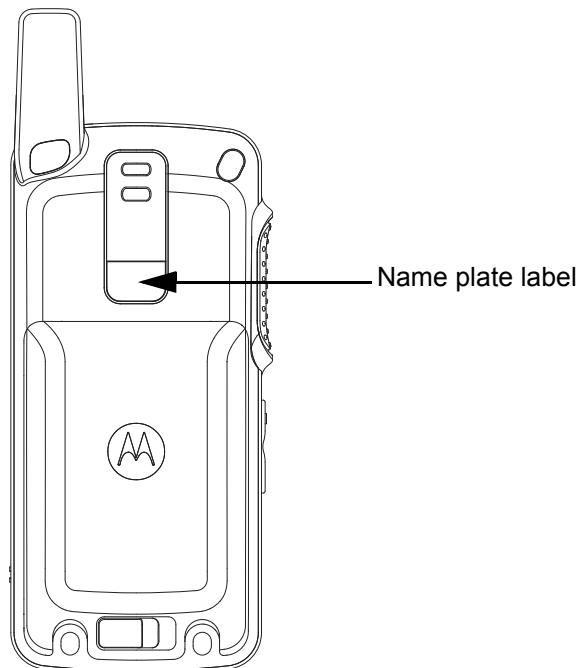
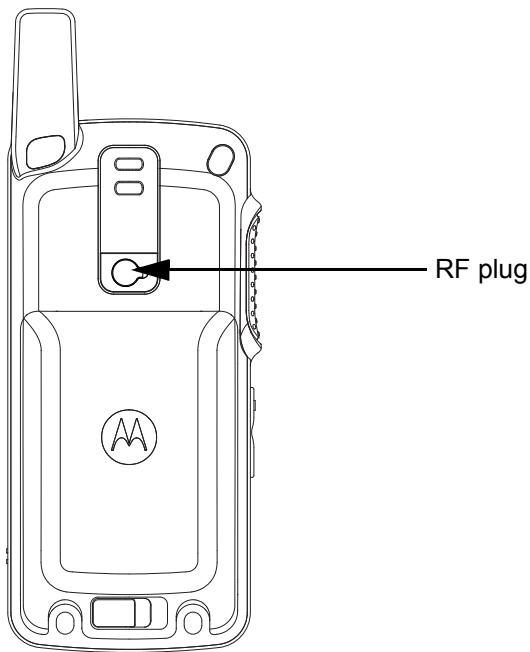

Figure 3-2. Name plate label
Figure 3-3. RF plug
- b. Remove the radio's name plate label and the RF Plug (blue) as shown in Figure 3-2. and Figure 3-3.